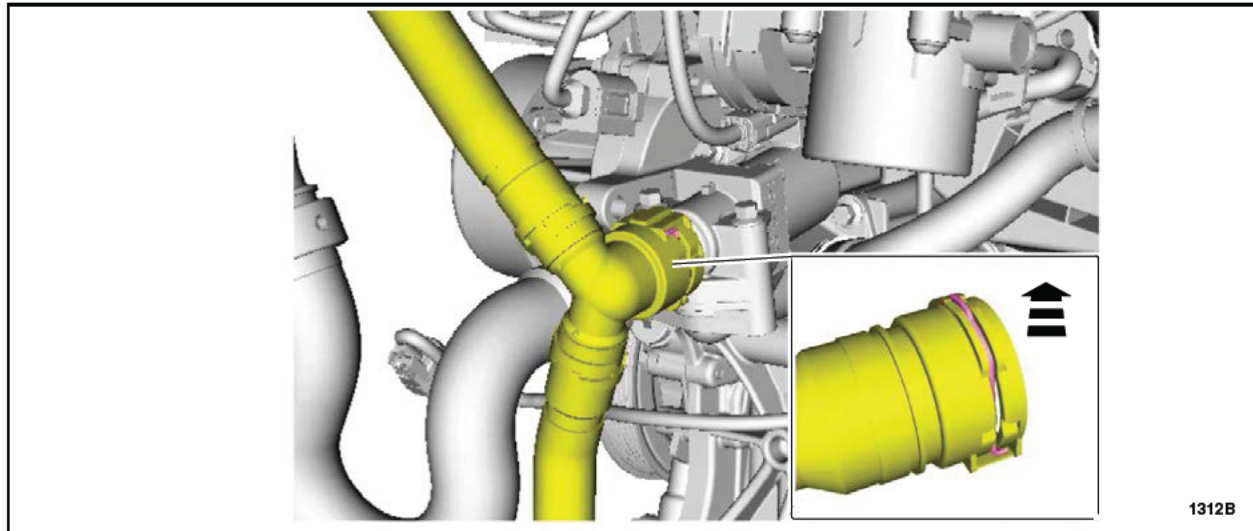

FIGURE I3
3. Release the clip and disconnect the quick connect T-fitting from the coolant shutoff solenoid valve. See Figure I3.